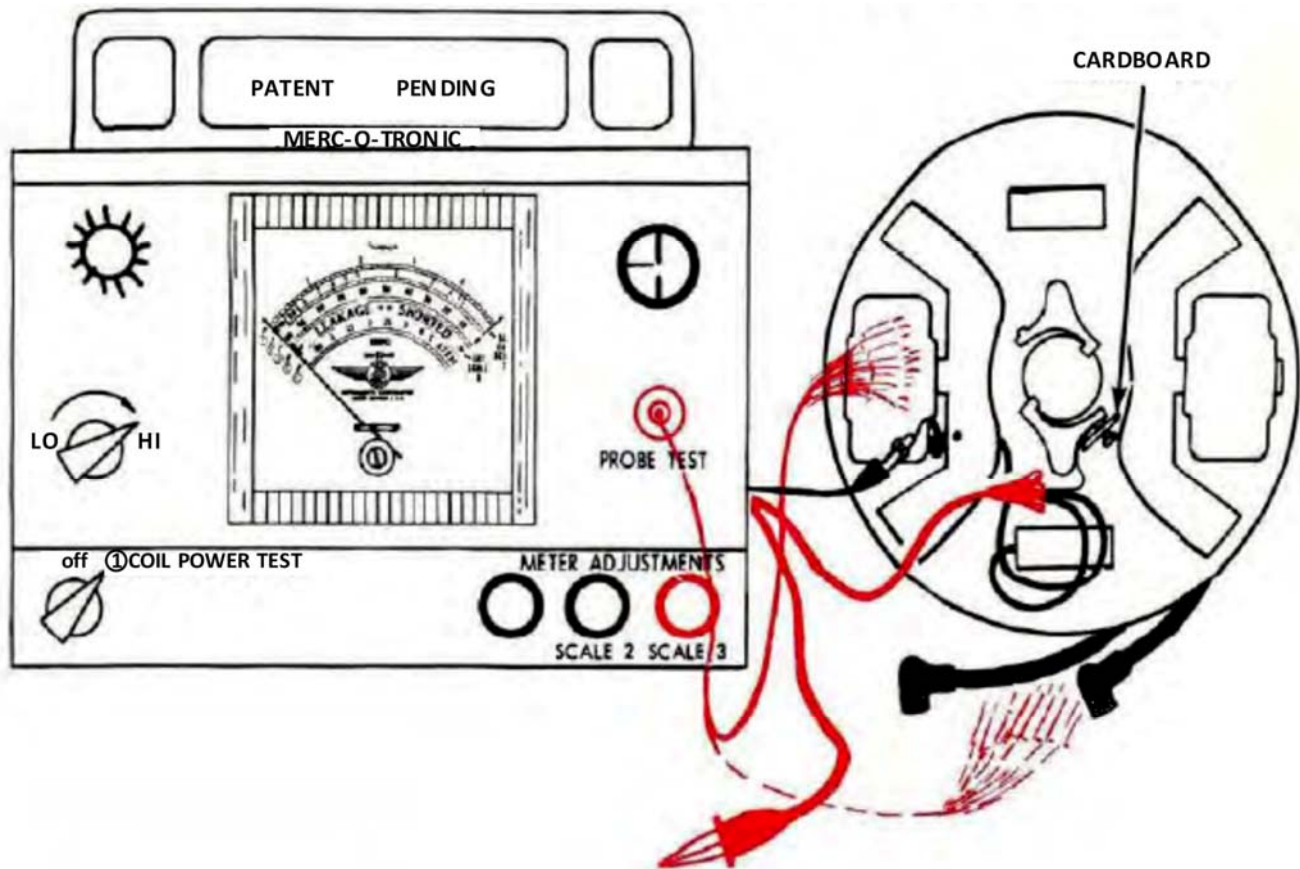

Figure 8
1. Remove large red test lead from coil secondary, (High Tension Lead) see illustration Fig. 8